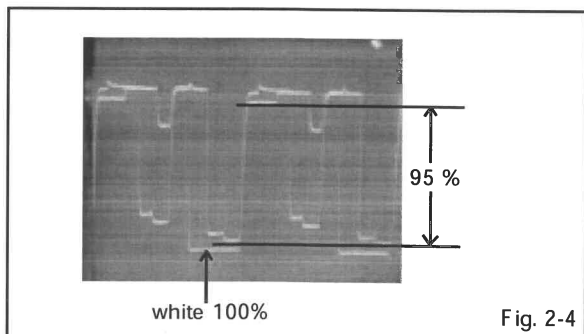

Fig. 2-4
17. Press the VOL. UP/DOWN button on the remote control until the red color level is adjusted to  $95 \pm 5\%$  of the white level. (Refer to Fig. 2-4)